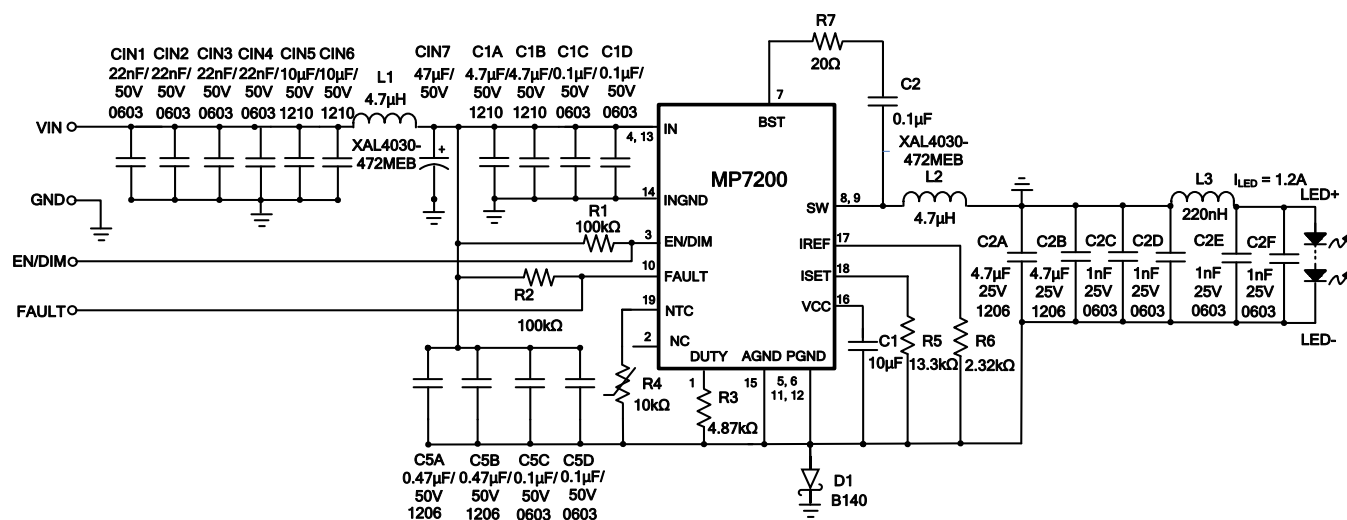

Figure 12: $I_{LED} = 1.2A$ Buck-Boost Application Circuit with No Two-Step Dimming
- 14) The recommended layout is based on Figure 12.